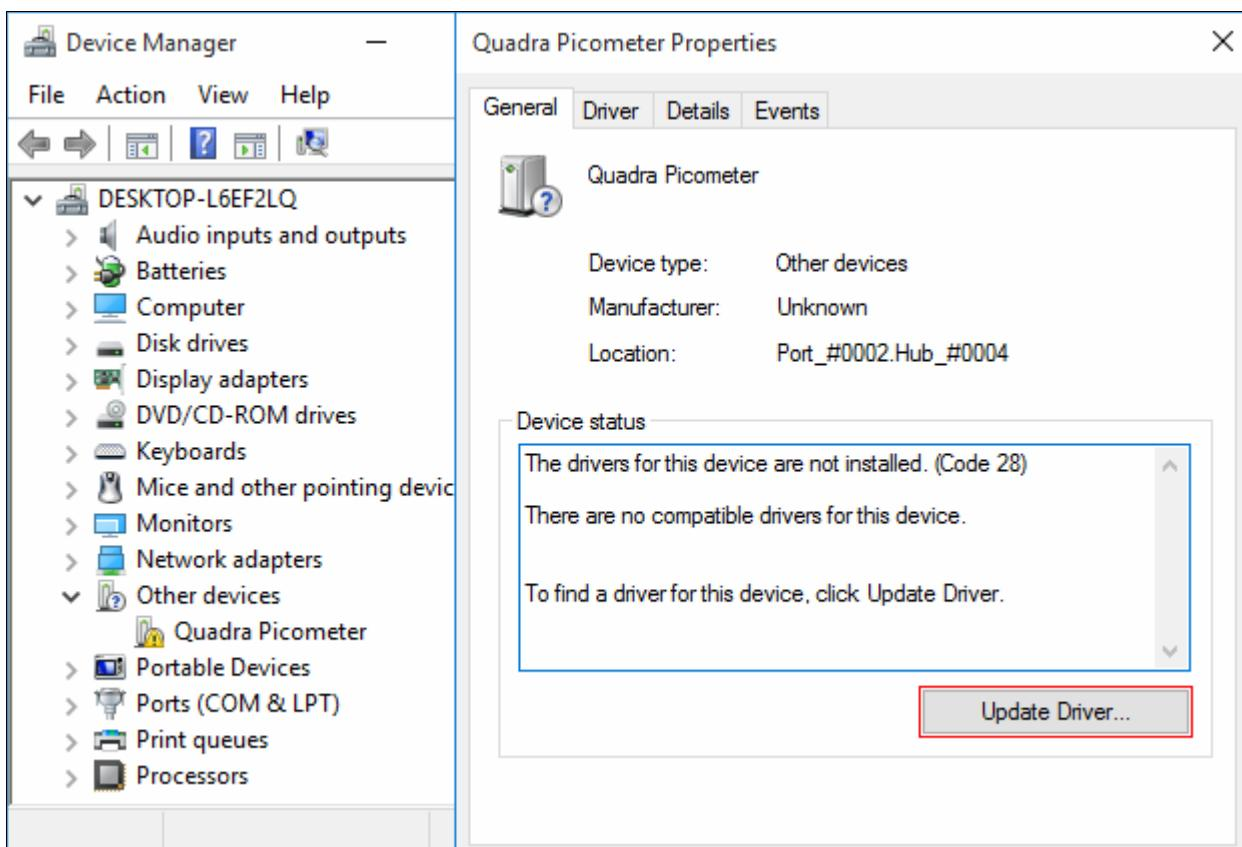

Figure 7 Update Device Drivers from Device Manager
1. To start with driver installation, connect the Quadra device to a USB port. At initial connection, Windows is unable to locate drivers for the device. Open device manager by typing *Device manager* in Windows *Start Screen*. Locate device named as *Quadra Picometer* under *Other devices* in the *Device Manager*. Right-click and choose *Properties* to open device properties window and on *General tab*, click *Update Driver* as shown on **Figure 7**. In the next dialog, select *Browse my computer for driver software* (**Figure 8**). Browse for the folder *\Windows Drivers\Eliko Install Disk v1.6.0* in the Quadra software package (**Figure 9**). If driver installation finishes successfully, then the confirming dialog (**Figure 10**) will be displayed.